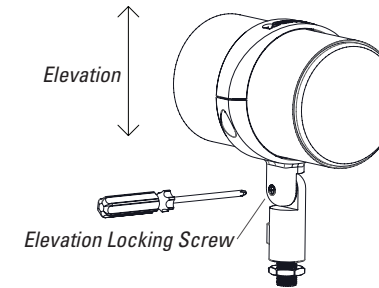

Figure 9
5. Use a Phillips screwdriver (not supplied) to loosen the elevation locking screw (see Figure 9), point the speaker to the desired elevation angle and hand tighten the locking screw. **DO NOT OVER-TIGHTEN.**